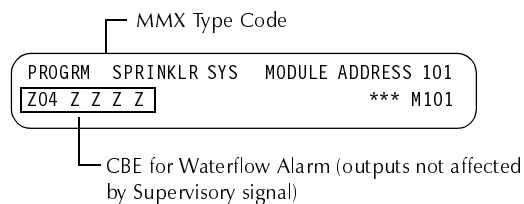

Figure 5-23 Sample Program Screen for a Waterflow Application
A Combination Waterflow/Supervisory Valve Monitor circuit allows an FACP to distinguish between a Waterflow Alarm Switch and a Waterflow Supervisory Switch installed on the same Monitor Module. Figure 5-23 shows an NFPA Style B Initiating Device Circuit (IDC) that meets requirements for a Combination Waterflow/Supervisory Valve Monitor circuit.
5. Program the Monitor Module for type code SPRINKLR SYS or COMB. MONITOR (Figure 5-23).
7. A Supervisory signal does not affect the outputs listed in the Monitor Module CBE (Figure 5-23).
Figure 5-23 shows a sample program screen for a waterflow application: